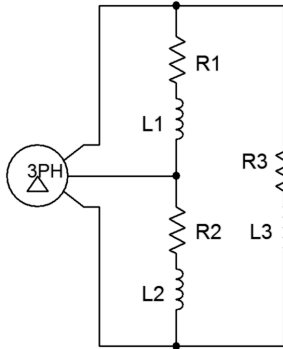

Figure 9.5
9. A 3-phase Δ connected generator feeds a Δ connected load consisting of 3 legs of 10Ω in series with $j4 \Omega$ of inductive reactance, as shown in Figure 9.5. If the line voltage is 208 volts, find the voltage across each load leg, the current through the wires connecting the load to the generator, and the apparent and real powers drawn by the load.
10. Given the delta-delta system of Figure 9.5, if the generator phase voltage is 120 volts and the load is balanced with each leg at $20 + j10 \Omega$, determine the line voltage, line current, generator phase current, load current, the voltage across each load leg, and the total real and apparent load powers.